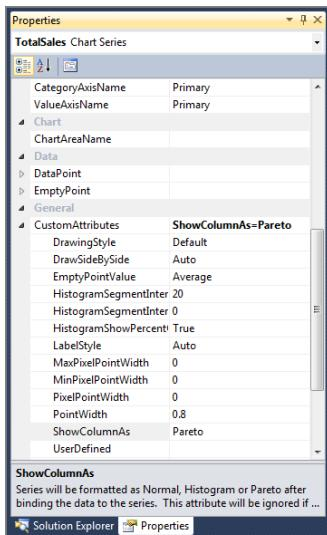

Figure 13-12
5. In the Properties window, find the `CustomAttributes` property. If you are viewing the properties using the categorized view, as shown in Figure 13-12, the `CustomAttributes` property is found under the General grouping. Expand the `CustomAttributes` property collection.